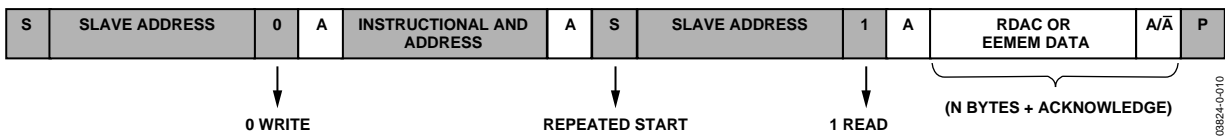
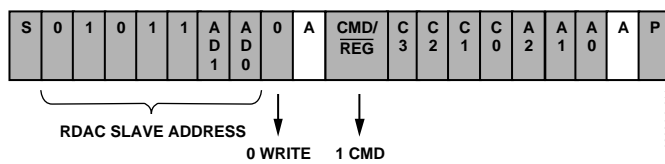
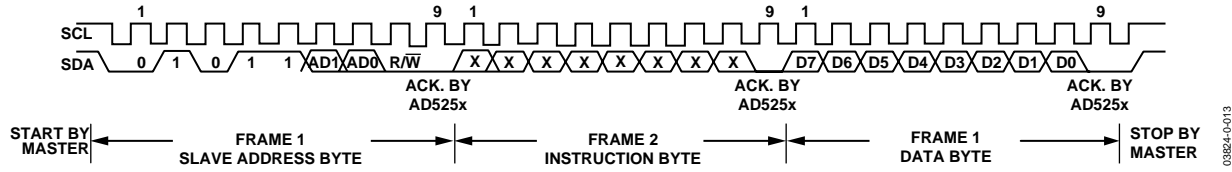
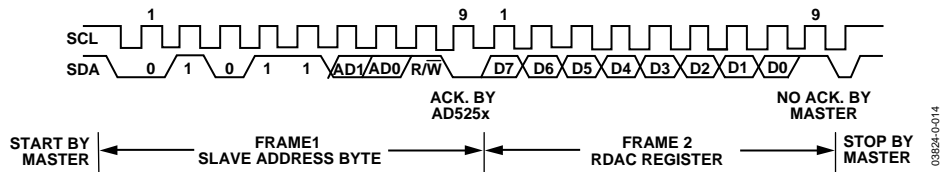

Figure 30. RDAC or EEMEM Random Read
Figure 31. RDAC Quick Command Write (Dummy Write)
Figure 33. General I2C Write Pattern
Figure 34. General I2C Read Pattern
Figure 30 illustrates a random RDAC or EEMEM read operation. This operation allows users to specify which RDAC or EEMEM register is read by issuing a dummy write command to change the RDAC address pointer and then proceeding with the RDAC read operation at the new address location.
The AD5253/AD5254 feature 12 quick commands that facilitate easy manipulation of RDAC wiper settings and provide RDAC-to-EEMEM storing and restoring functions. The command format is shown in Figure 31, and the command descriptions are shown in Table 9.
The first byte of the AD5253/AD5254 is a slave address byte (see Figure 33 and Figure 34). It has a 7-bit slave address and an R/W bit. The 5 MSB of the slave address is 01011, and the next 2 LSB is determined by the states of the AD1 and AD0 pins.
AD5253/AD5254 can be controlled via an I2C-compatible serial bus and are connected to this bus as slave devices. The 2-wire I2C serial bus protocol (see Figure 33 and Figure 34) follows:
1. The master initiates a data transfer by establishing a start condition, such that SDA goes from high to low while SCL is high (see Figure 33). The following byte is the slave address byte, which consists of the 5 MSB of a slave address defined as 01011. The next two bits are AD1 and AD0, I2C device address bits. Depending on the states of their AD1 and AD0 bits, four AD5253/AD5254 devices can be addressed on the same bus. The last LSB, the R/W bit, determines whether data is read from or written to the slave device.
enables the RDAC register. The 5 LSB, A4 to A0, designates the addresses of the EEMEM and RDAC registers (see Figure 27 and Figure 28). When MSB = 1 or when the device is in CMD mode, the four bits following the MSB are C3 to C1, which correspond to 12 predefined EEMEM controls and quick commands; there are also four factory-reserved commands. The 3 LSB—A2, A1, and A0—are 4-channel RDAC addresses (see Figure 31). After acknowledging the instruction byte, the last byte in the write mode is the data byte. Data is transmitted over the serial bus in sequences of nine clock pulses (eight data bits followed by an acknowledge bit). The transitions on the SDA line must occur during the low period of SCL and remain stable during the high period of SCL (see Figure 33).
3. In current read mode, the RDAC0 data byte immediately follows the acknowledgment of the slave address byte. After an acknowledgement, RDAC1 follows, then RDAC2, and so on. (There is a slight difference in write mode, where the last eight data bits representing RDAC3 data are followed by a no acknowledge bit.) Similarly, the transitions on the SDA line must occur during the low period of SCL and remain stable during the high period of SCL (see Figure 34). Another reading method, random read method, is shown in Figure 30.
4. When all data bits have been read or written, a stop condition is established by the master. A stop condition is defined as a low-to-high transition on the SDA line that occurs while SCL is high. In write mode, the master pulls the SDA line high during the 10th clock pulse to establish a stop condition (see Figure 33). In read mode, the master issues a no acknowledge for the ninth clock pulse, that is, the SDA line remains high. The master brings the SDA line low before the 10th clock pulse and then brings the SDA line high to establish a stop condition (see Figure 34).